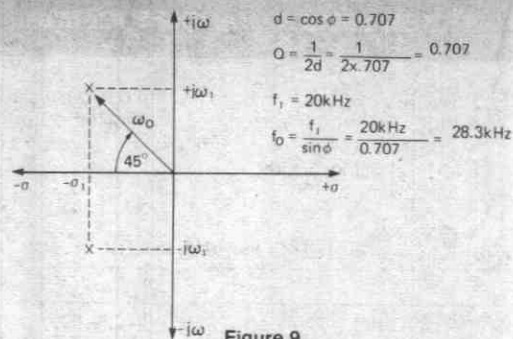

Figure 9. S-Plane Diagram of Highpass Filter with Critical Damping
1. From Table I the inverting configuration must be used to realize a highpass gain of -1 . An s-plane diagram of this function is shown in Figure 9. Critical damping requires the pole positions to be on a line 45° with respect to the real axis and this results in no frequency peaking. The damping factor d is:
Because this is a low Q system the natural frequency will not be the same as the highpass cutoff frequency f_1 . From Figure 9: